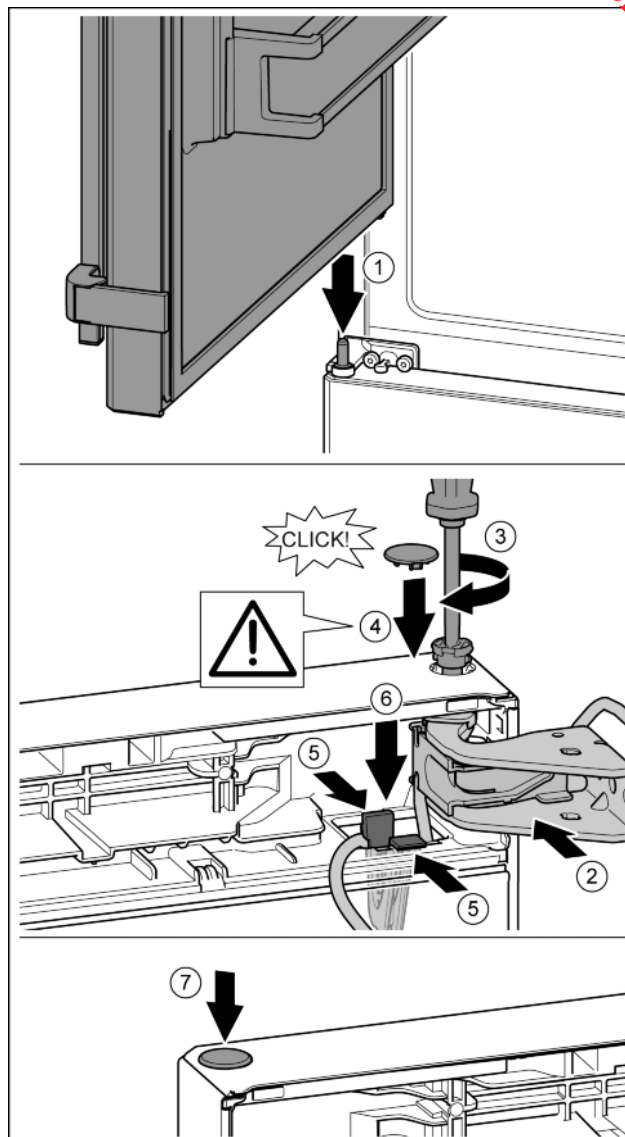

Fig. 33
- Place the upper door on the middle mounting bolt Fig. 33 (1)
- Align top of door with aperture in mounting block. Fig. 33 (2)
- Insert the bolt and tighten with a T15 screwdriver. Fig. 33 (3)
- Fit protective cover to protect the door: Install the protective cover and check that it is attached to the door. If not, insert the bolt fully. Fig. 33 (4)
- Insert the holder with its cable into the opening. At the same time, the lug with the longer opening must point forward. Fig. 33 (5)
- Press the bracket downwards until the lug clicks into place. Fig. 33 (6)
- Insert the plugs. Fig. 33 (7)